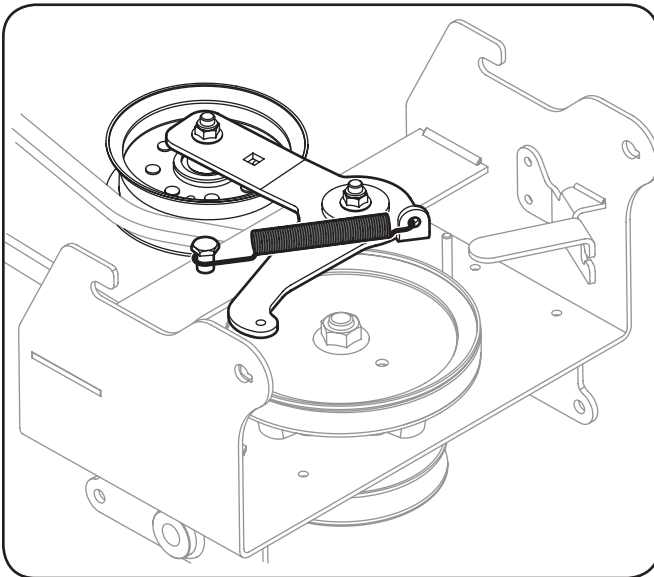

Figure 3-5
- If your tractor is equipped with a **Manual PTO**, attach the 5" extension spring to the carriage idler bracket as show in Figure 3-5.